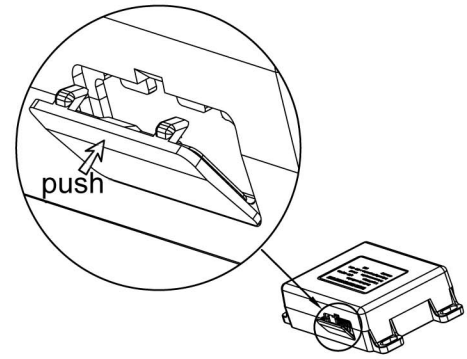

Figure 5.1
4. After completing the setting, re-attach the cover by inserting bottom latch and pushing the cover until closed (see fig. 5.1)